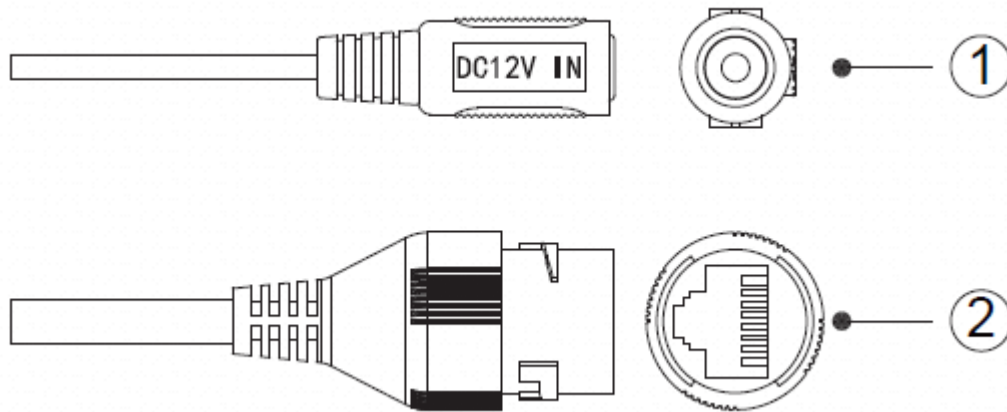

Figure 1-1
- Different devices may have different structures and cables, please refer to Figure 1-1 according to the actual product.